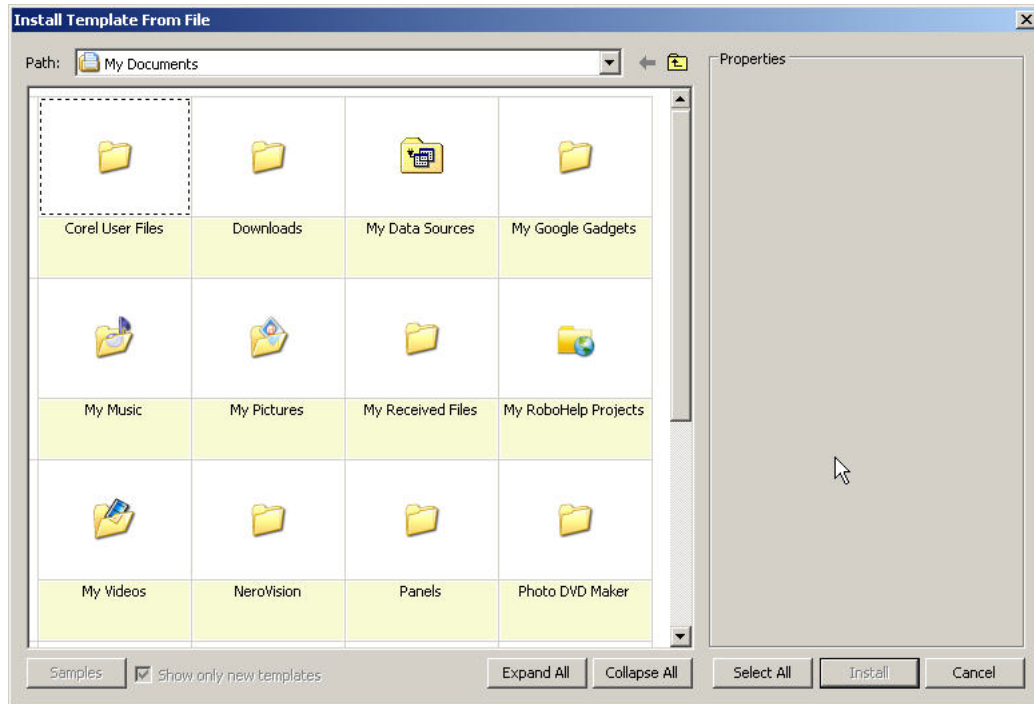

FIG. 181 Install Template From File dialog
- When you make this selection, the *Install Template From File* dialog is invoked (FIG. 181).